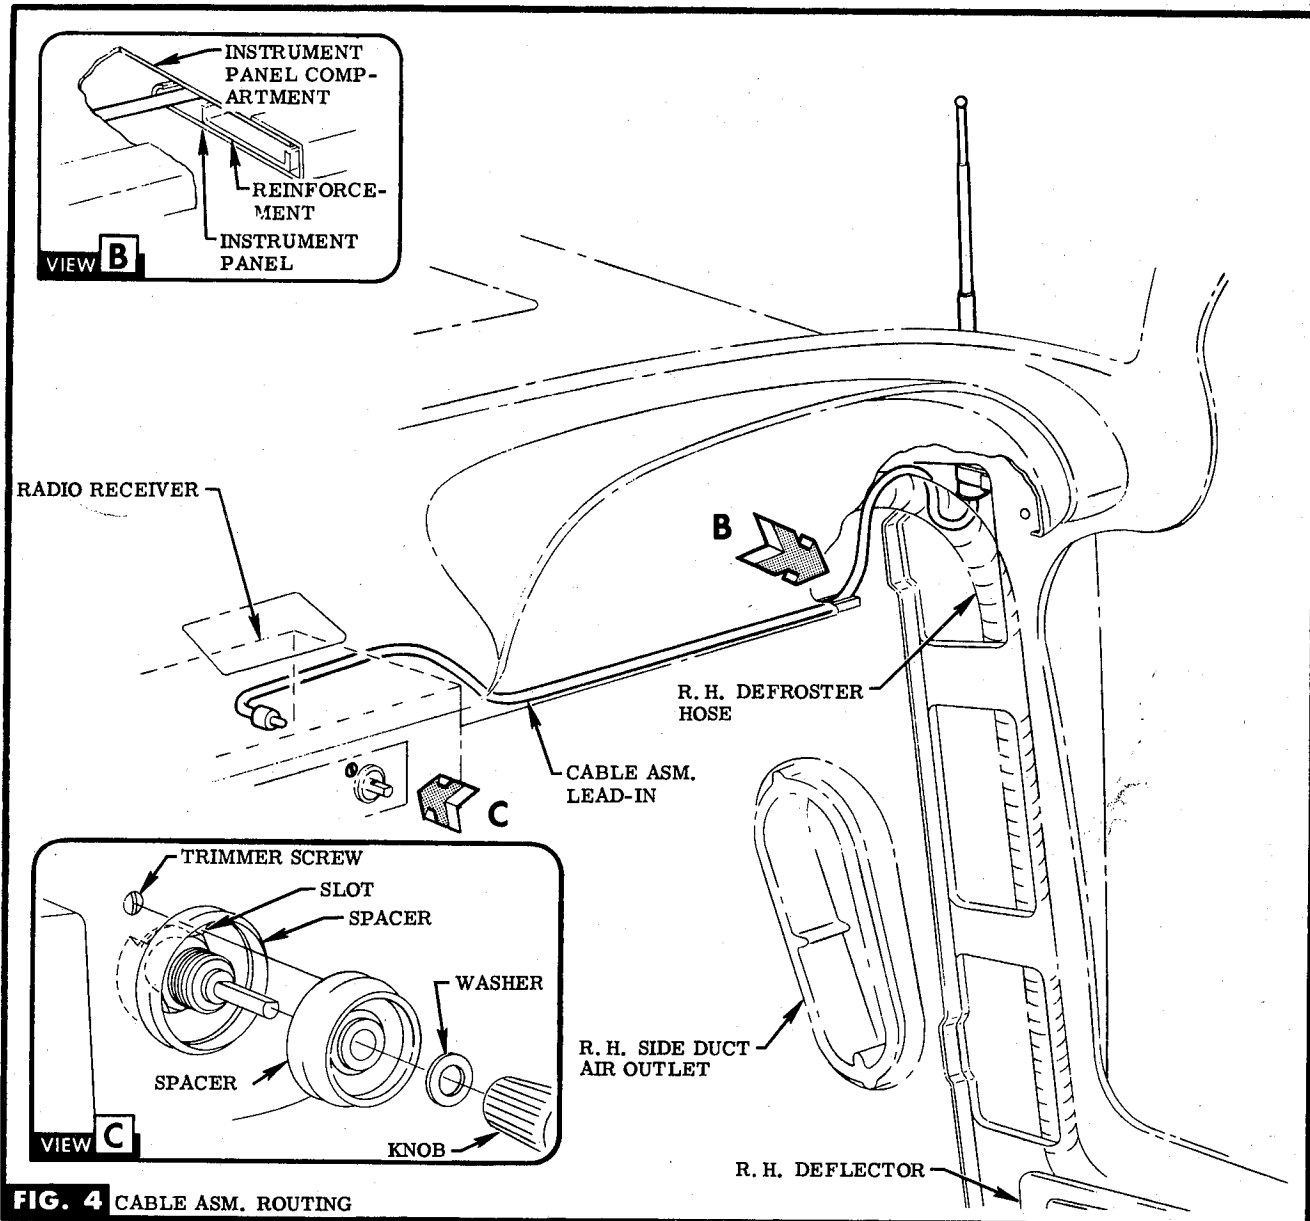

FIG. 4 CABLE ASM. ROUTING
STEP 9 RE-ASSEMBLE DEFROSTER HOSE. SEE FIG. 4.
STEP 10 ROUTE CABLE ASM. UP BEHIND & OVER DEFROSTER HOSE & OUT THRU TOP ACCESS HOLE IN HINGE PILLAR. ROUTE CABLE ASM. BETWEEN INSTRUMENT PANEL & FORWARD FLANGE OF INSTRUMENT PANEL REINFORCEMENT. PLUG CABLE ASM. LEAD-IN INTO REAR OF RECEIVER. SEE FIG. 4 & VIEW B.
STEP 13 ADJUST ANTENNA; TUNE DIAL TO WEAK STATION BETWEEN 800 & 1000 KC WITH VOLUME TO OR NEAR MAXIMUM. ADJUST TRIMMER SCREW FOR HIGHEST VOLUME AT SPEAKER SEE FIG. 4. **NOTE** Adjust screw thru slot in spacer.